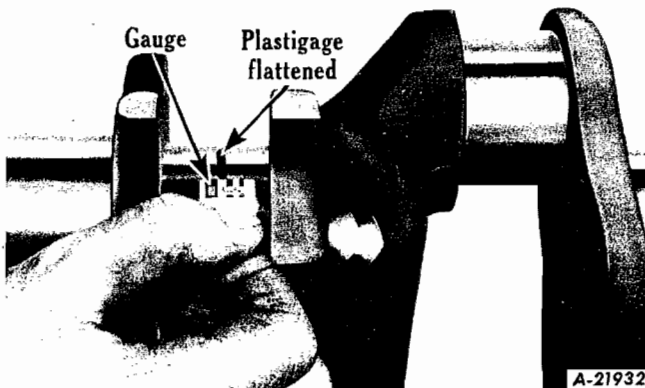

Fig. 67
- (e) To determine the bearing clearance, compare the width of the flattened plastigage at its widest point with the graduations on the envelope (Fig. 67). The number within the graduation on the envelope indicates the clearance in thousandths of an inch. NOTE: Do not turn crankshaft during the above procedure.